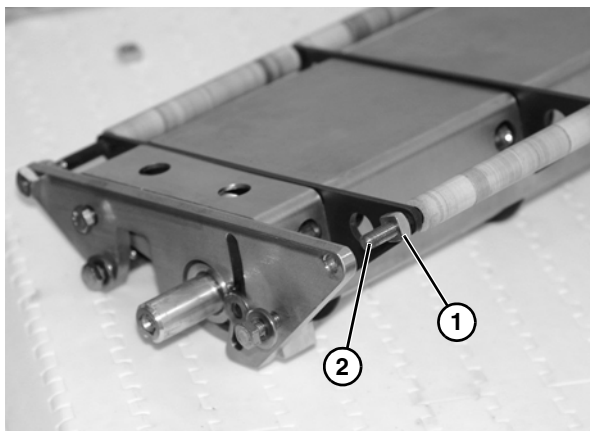

Figure 33
7. Install inner nut (**Figure 33, item 1**) onto rod (**Figure 33, item 2**).